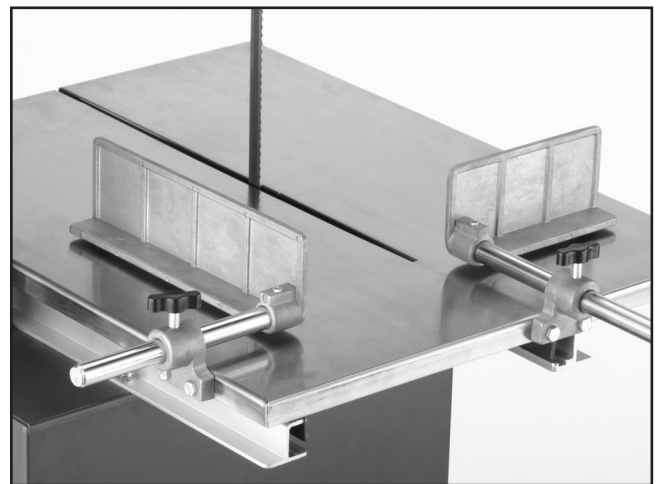

Figure 18. Completed assembly of fences and rails.
6. Use the knob bolts to tighten both fence rails to the fence brackets. Your completed assembly should look like **Figure 18**.